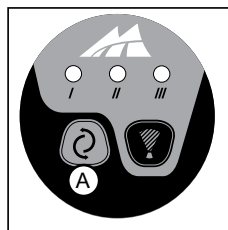

FIGURE 1
2. Once the unit is ready for use, the light will turn solid and default to medium (II) Steam Level.
3. Press the Rotary Action Power Button to power on/off the rotary action (See figure 1, A). The Rotary direction changes each time the Rotary Button is powered "on". This will help prolong the life of the brush. The rotary action can be used without steam.